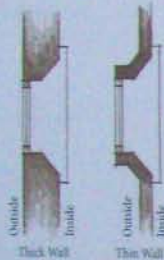

Figure 11
- Reduce contrast between the window frame and adjacent walls to lessen glare and improve vision; use light-colored window frames and casings, and paint the walls around windows when possible (see figure 11).